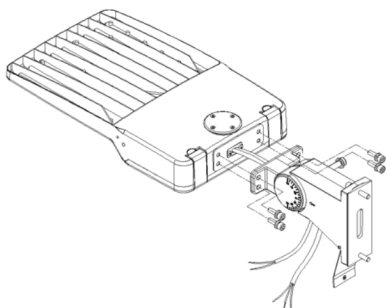

Fig. 12
1. Assemble Arm to Fixture, as shown in Fig. 12.